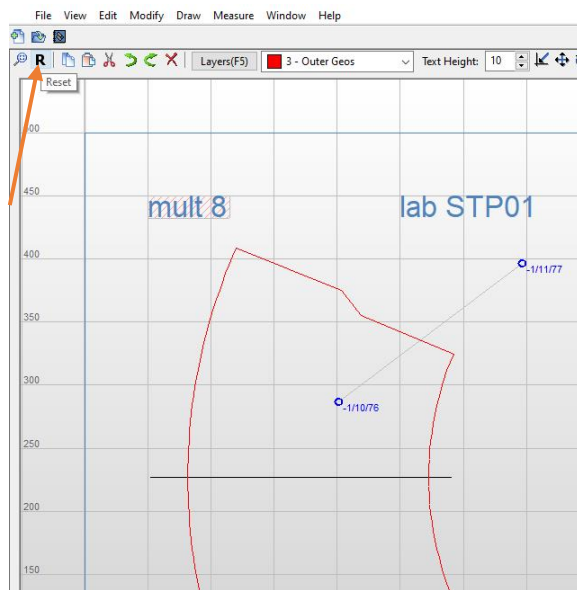

Figure 152
12. **Reset:** Now you may recognize that a grey line with two markings at its ends remains. They can be neither picked nor deleted. These NestKing indication objects can either be left or removed by clicking on the reset button **R** on the Main Toolbar (Figure 152).